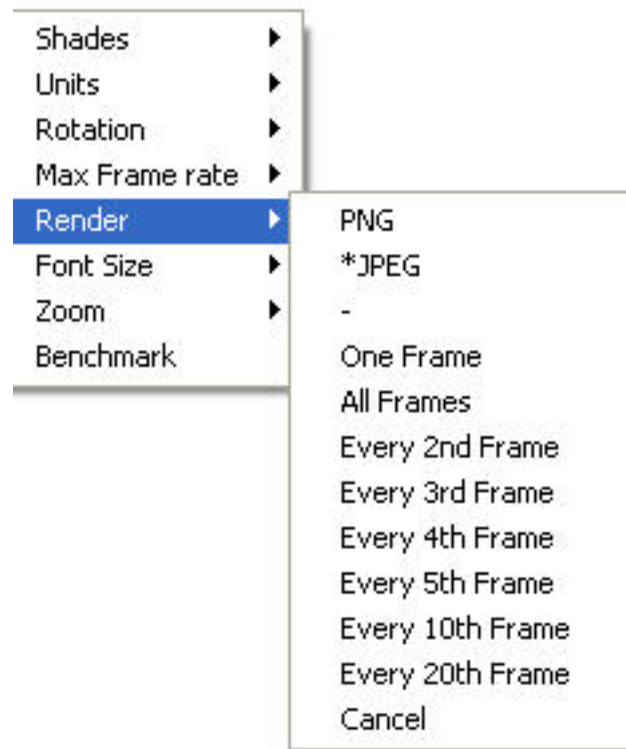

Figure B.7: Render Menu
The **Render** menu, illustrated in Figure B.7, allows one to create PNG or JPEG image files of the currently displayed scene. The graphics library, GD 2.0.15, was used to create the rendered versions. GD 1.0 is documented in reference [10, Appendix 4]. GD 2.0.7 now creates images using “full color” allowing for more realistic scene representations eliminating the color banding that occurred with the previous version because of the limited number (256) of colors used to represent images. Due to patent disputes, GD 2.0.15 has dropped support for the GIF file format and uses JPEG or PNG instead.